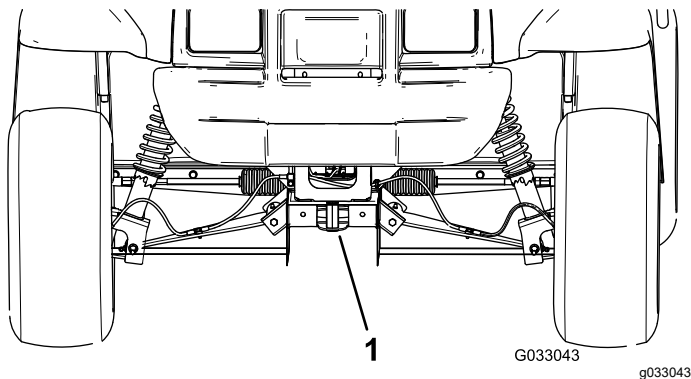

Figure 17
Refer to Figure 17 and Figure 18 for the tie-down locations on the machine.
2. Affix a tow line to the tongue at the front of the machine frame (Figure 17).